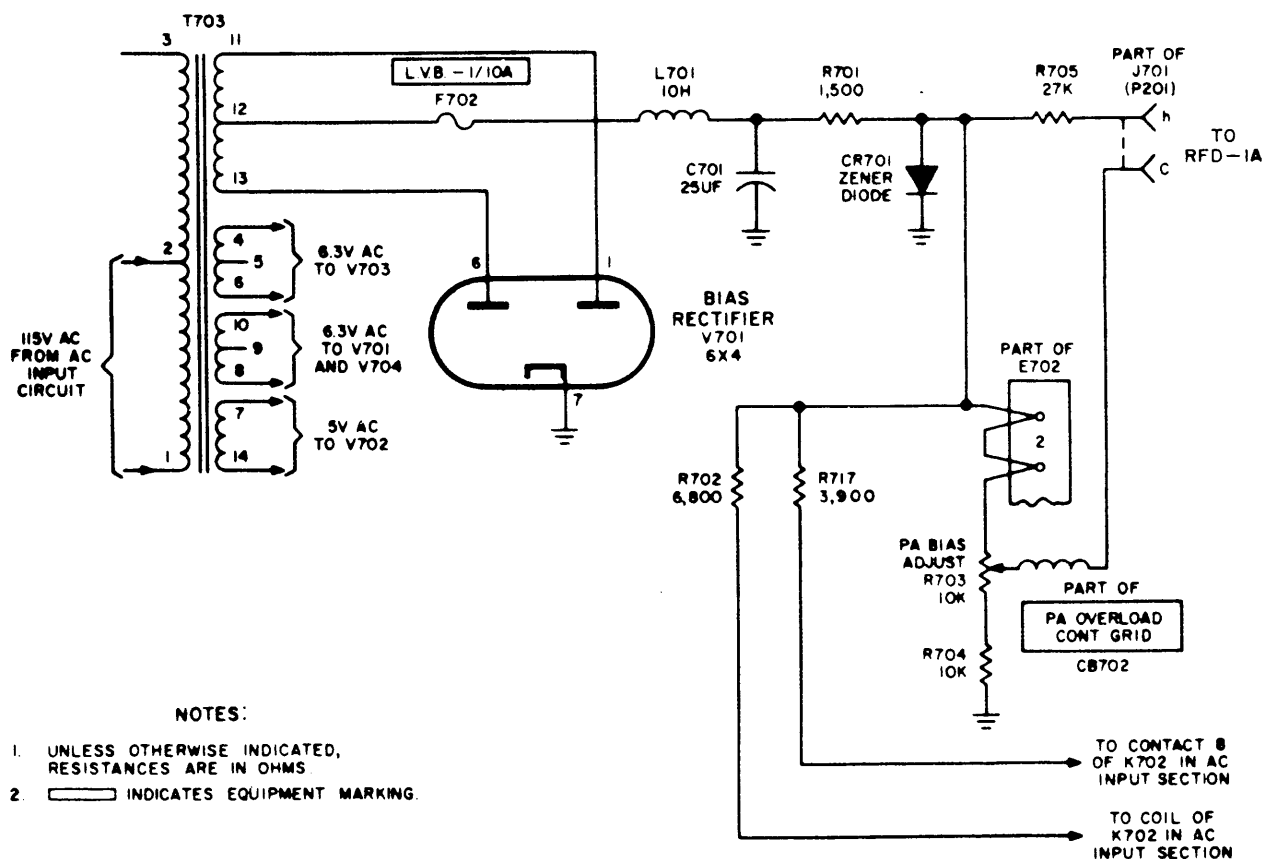

Figure 4-9. Simplified Schematic Diagram, Bias Power Supply Section, PS-4A
d. BIAS POWER SUPPLY (See figure 4-9).
(1) 115 VAC is applied to the primary of transformer T703 from the a-c input circuit (figure 4-7). The secondary of T703 has four windings; three windings provide filament voltage for the tubes in the mid-voltage power supply. The fourth winding provides plate voltage for bias rectifier V701 (figure 4-9).
(2) The rectified output of V701 is taken off pin 12 of T703 and applied, through LV B- 1/10A fuse F702, to an LC filter network (L701 and C701). The -150 VDC output of the filter network is applied to pin h of J701 jack through R701 and R705. Voltage is regulated by Zener diode CR701. A portion of this voltage is tapped off R703, PA BIAS ADJ resistor, and applied to pin C of J701 via the coil of PA OVERLOAD CONT GRID circuit breaker CB702.